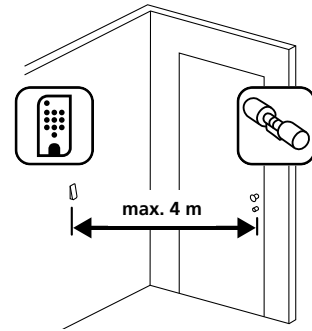

Fig. 105
- 1 Place the keypad in the desired installation location (Fig. 105).